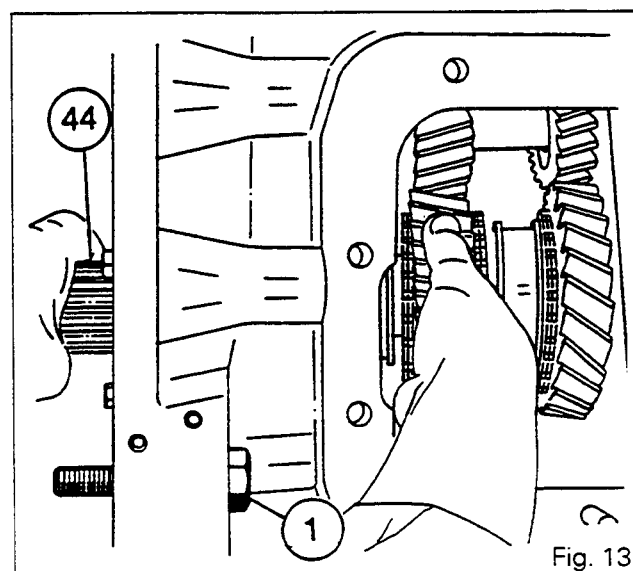

Fig. 13
39. Remove the circlip (45).
42. Remove the bolts (41) and the locking ring (46).
43. Remove the cup (48), cones (40) and (39), and the shaft (44).
44. Fit the following in the housing: the Tortoise gear (36), the synchromesh and its rings (33) and (74), the thrust washer (32), the gear (29) with its needle-roller bearings (30) and (28) and its synchromesh cones (75) and (76), thrust washer (27) and synchromesh ring (25).
**Note: If bush (35) shows signs of wear, replace the complete gear assembly. (The bush is reamed after fitting). If the combination bearings (30) and (28) are worn, replace the complete gear assembly. (Bearings are fitted in the factory).**
45. Insert the output shaft (44) while holding the gear assembly in position (see Fig. 13).
46. Pull the shaft slightly back in order to expose the groove for the snap ring (34).
90. Fit the bolt (1) (Fig. 13), if fitted, see section 5 C01 or 5 C02 in according to version.